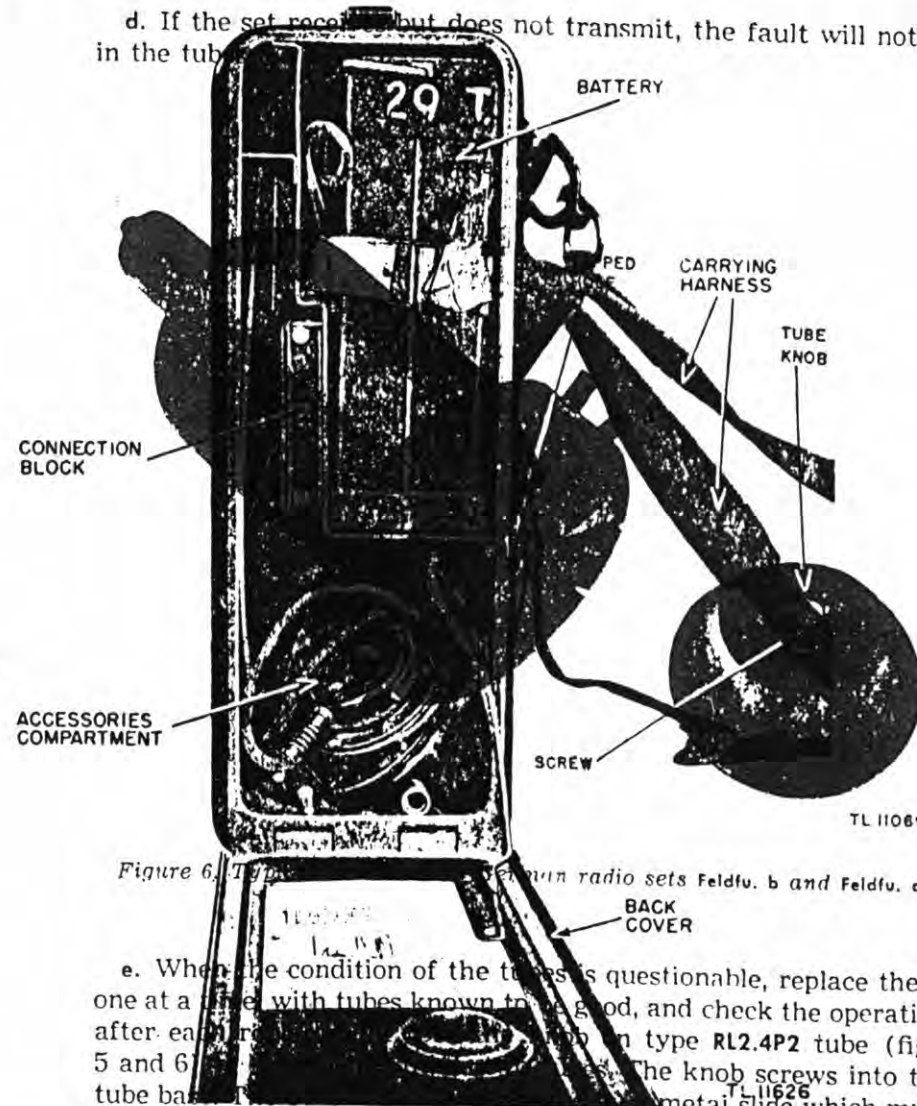

Figure 4. German radio set Feldfu. b, back view, cover open.
(2) Open the back cover of the set and remove the accessories from the case (fig. 4).
(3) Make sure the battery terminals and the leads of the battery leads are clean. Connect the positive battery lead to the red post of